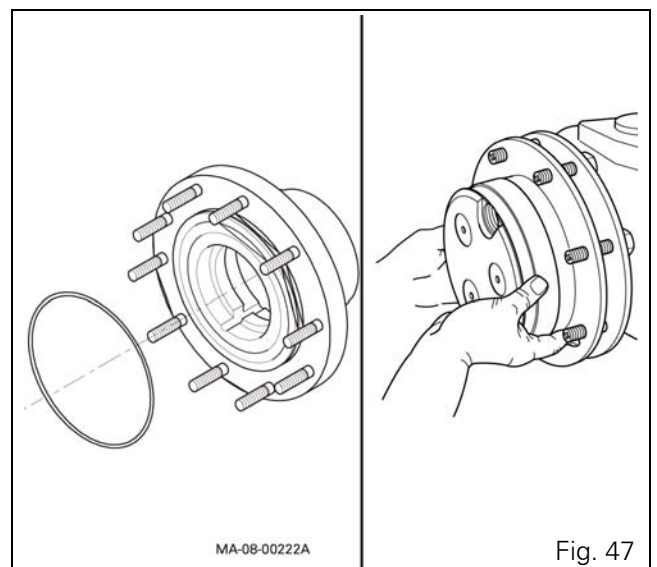

Fig. 47
40. Fit a new O'ring on the wheel hub (Fig. 47).